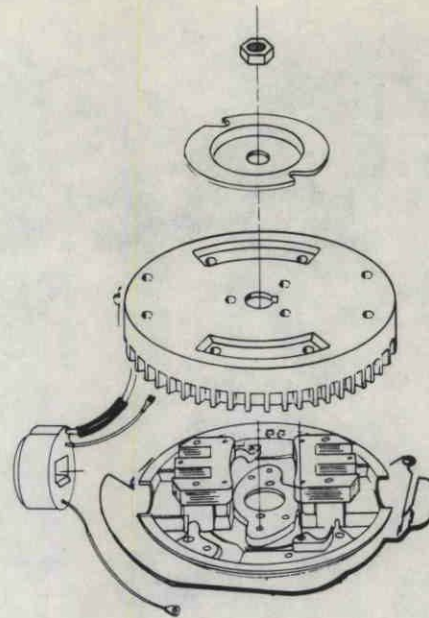

Figure 13. Flywheel and Ignition Components.
2. Remove flywheel and ignition components. Figure 13.